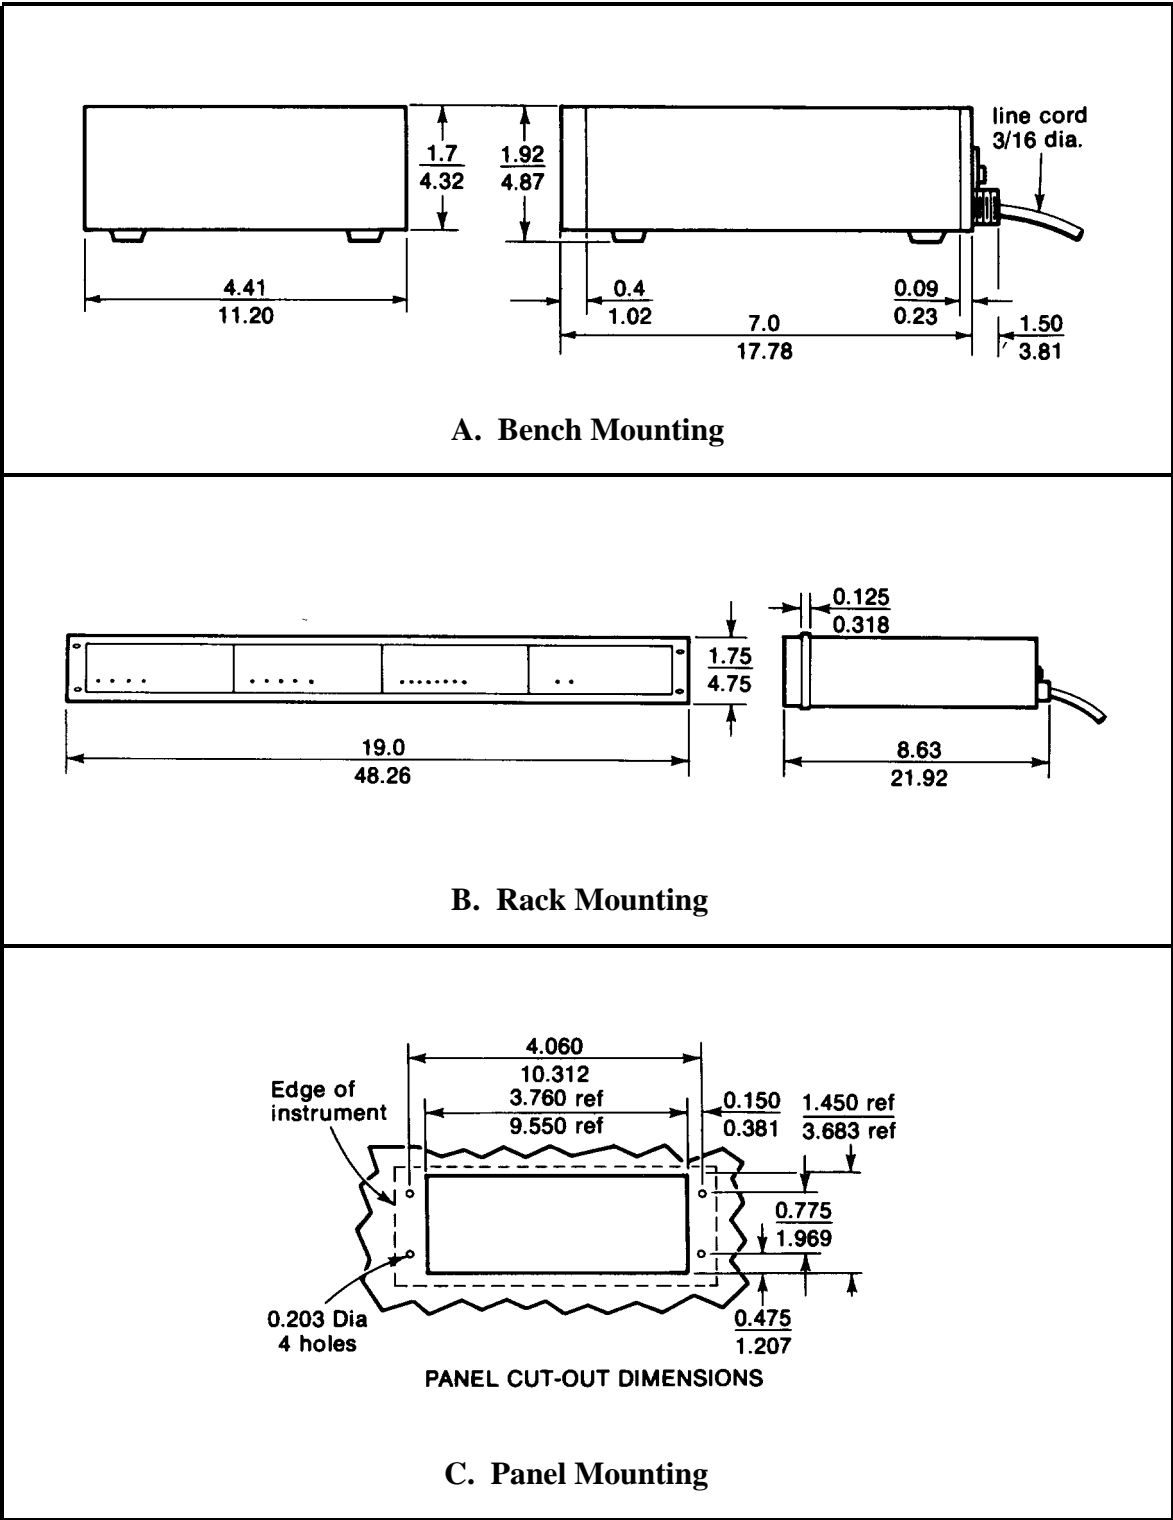
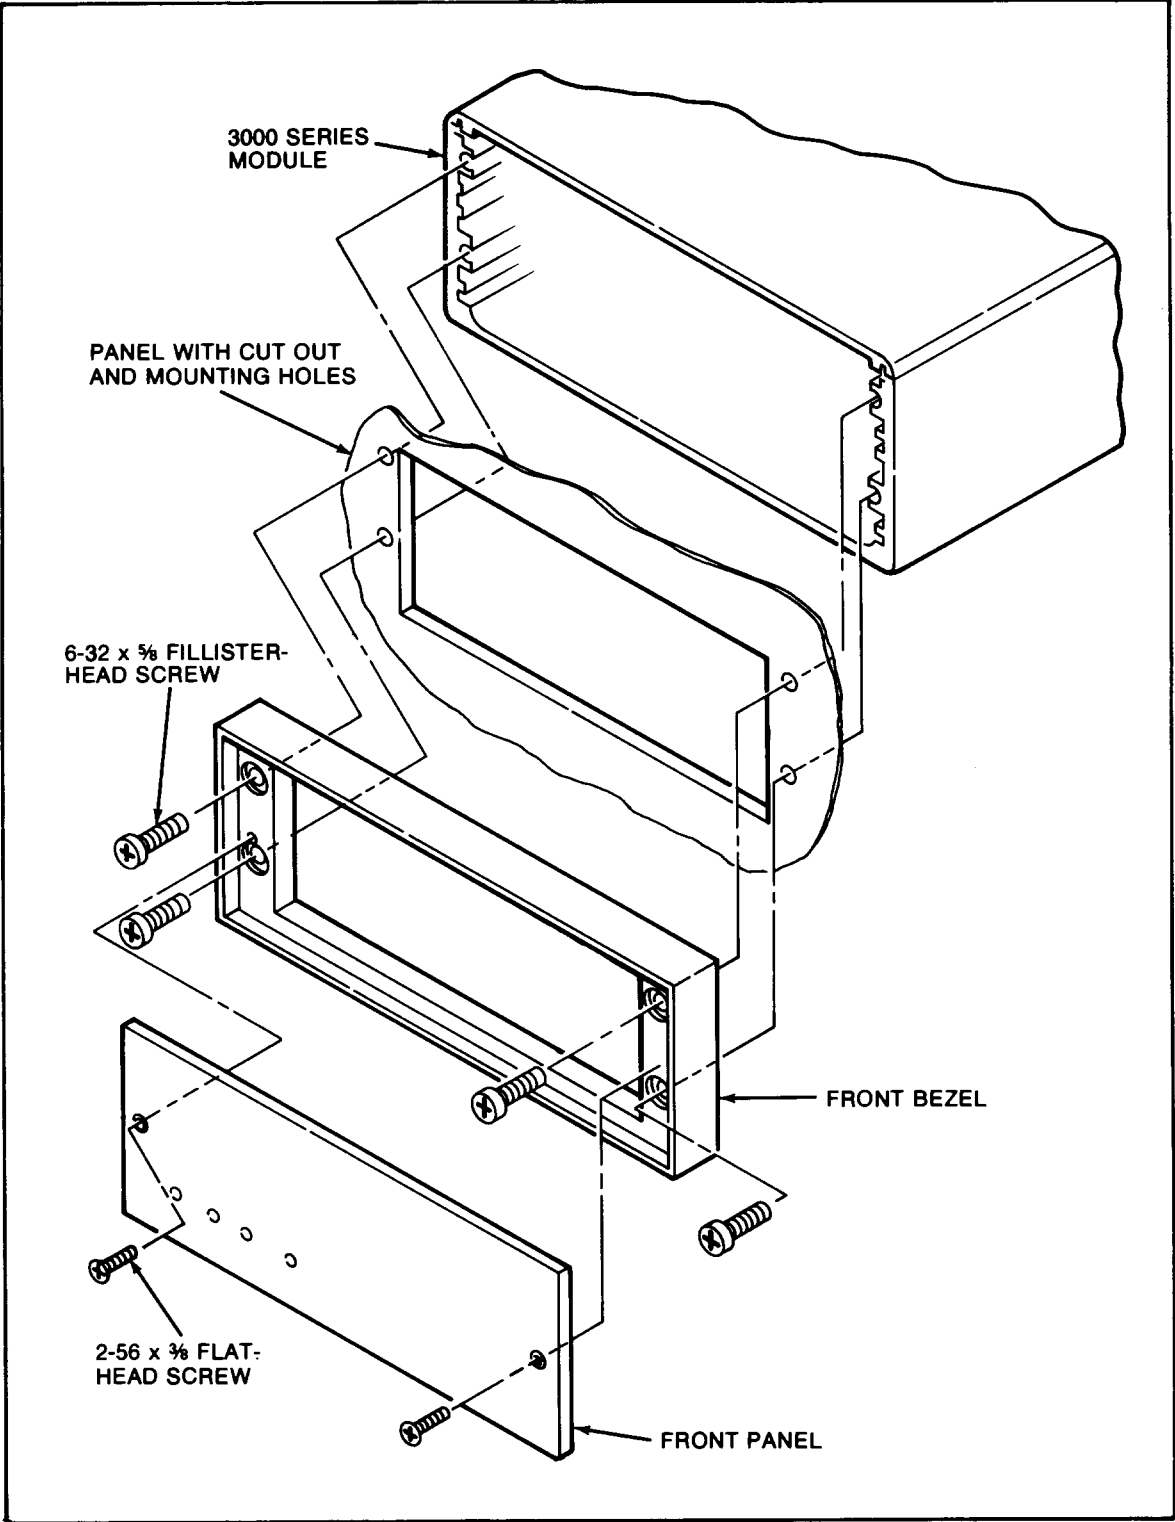

Figure 2. Instrument Mounting Dimensions
Figure 3. Instrument Panel Mounting
Module Mounting. The *3000 Series* Modules can be operated as bench-top instruments or they can be rack- or panel-mounted. Clearance dimensions for a bench-mounted instrument are given in Figure 2. Panel cut-out dimensions for panel mounting are also shown in Figure 2. Up to four *3000 Series* instruments can be mounted in a 19-inch rack using the 1.75-inch high Model 3004 Rack Adaptor. Rack-mounting dimensions are also given in Figure 2. To panel mount an instrument, proceed as follows. Refer to Figure 3.
- (c) Make the panel cutout and drill the screw clearance holes indicated in Figure 2. The front bezel can be used as a template to define the rectangular cutout and locate the clearance holes.